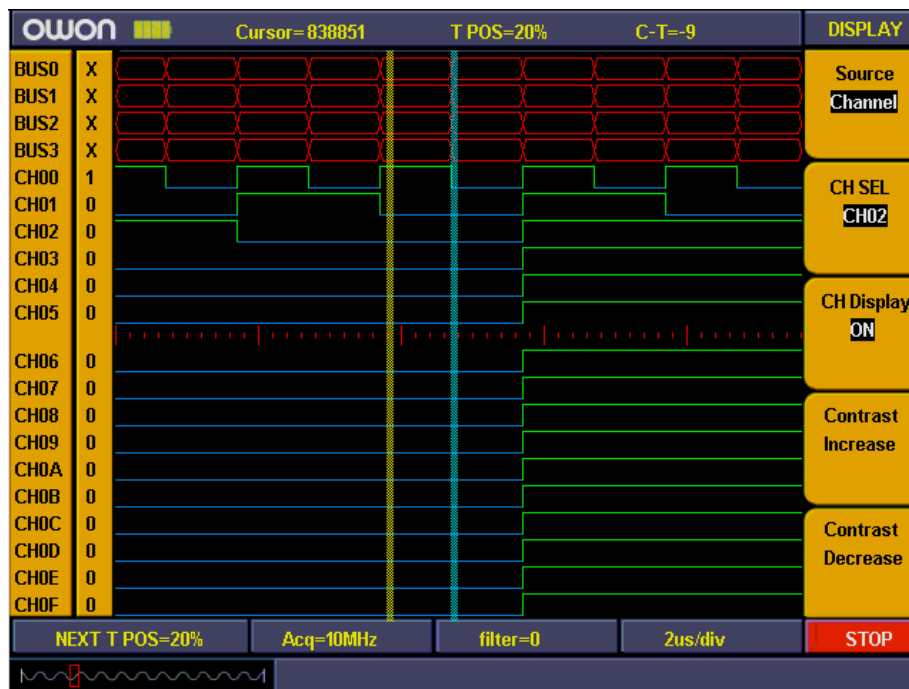

Fig.4-13
4. Press "F3" and set the signal sources as "ON". Repeat operation of steps 3.4 and set CH01, CH02 as "ON" and CH03-CH0F as "OFF". Refer to Fig.4-13.